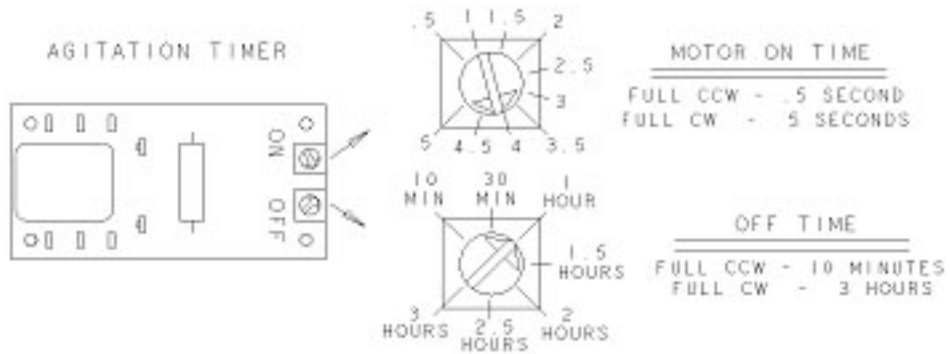

Figure 3.
7. Adjust the automatic agitator timing settings (located in the dispenser's electrical box) to 2 seconds ON, 3 hours OFF. See Figure 3.